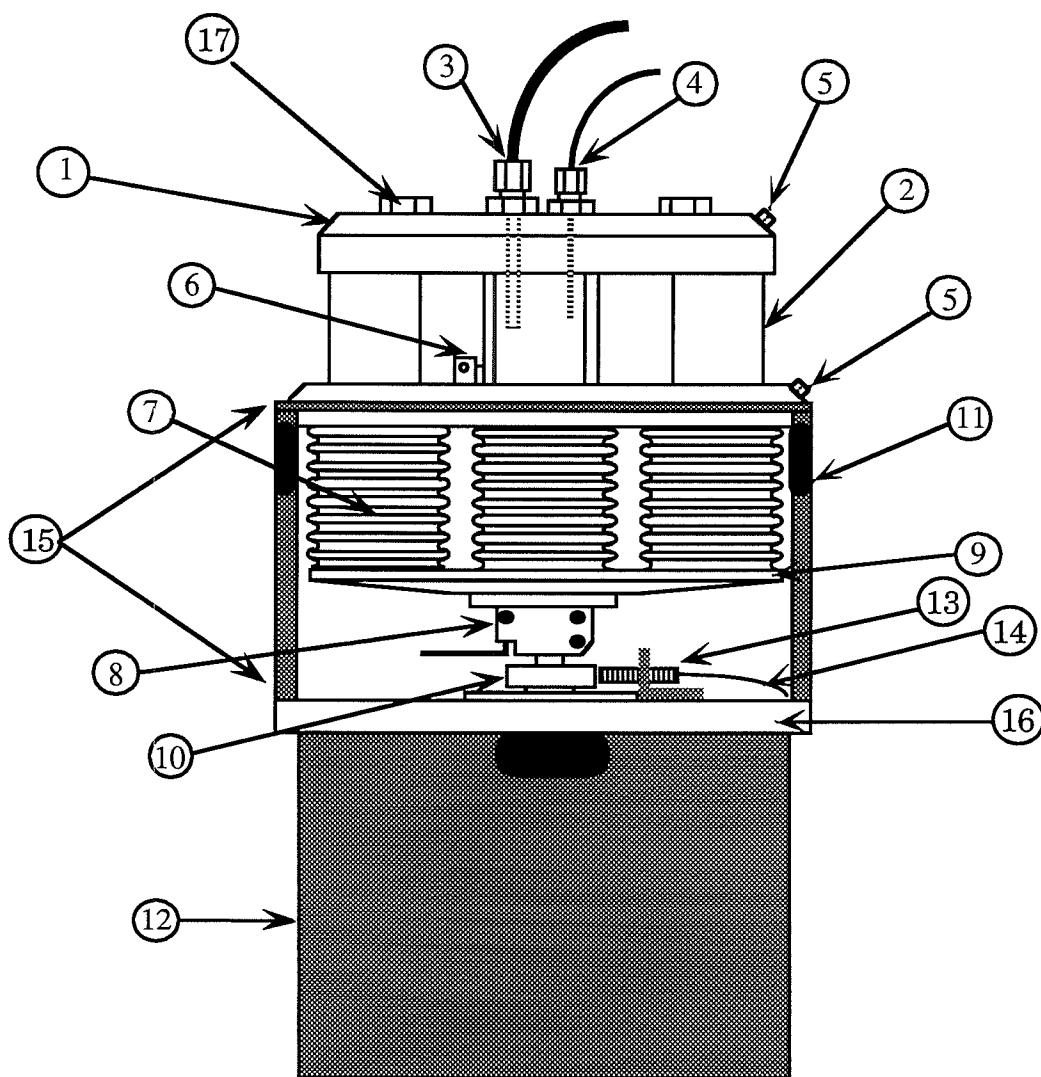

Figure 1B - Machine with Two Sectors Removed To Show Swashplate Tilt Coupling and Jack Screw Wrench
Once you have unpacked the M6 and positioned it and the capacitance tank as you want them, you can begin setting up the machine. See Figure 1B. Plug the motor power cord into the DC OUTPUT plug in the back of the controller. Then remove the front panel of the upper (bellows housing) cylinder (15). The sectors with the cutout handles are the side panels. These are attached with four 1/4"-20 screws. At the top there are two 1/4"-20 x 3/4" buttonhead cap screws which can be removed with a 5/32" hex wrench. At the bottom are two 1/4"-20 x 1" cap screws that are removed with a 3/16" hex wrench. Removing the front panel will allow you to access the bellows, coupler and proximity sensor. The proximity sensor, which sends signals to both the speed indicator and the IVO counter, is mounted on the motor plate pointing toward the rotating shaft. Pull the proximity sensor wire (14) out through the cutout handle in the nearest side panel.